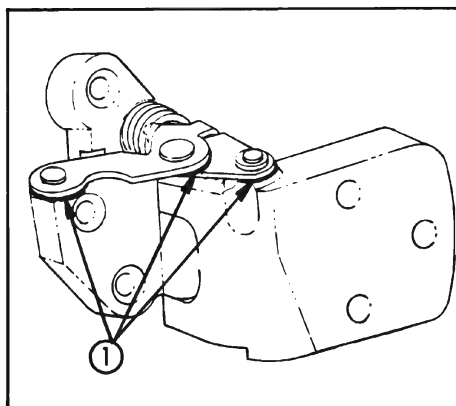

Figure 1-19—Rear Door Hinge and Hold-Open Assembly
4. Rear Door Hinge and Hold-Open Assembly. Wipe off dirt and apply a light coat of Lubriplate or equivalent, to frictional points (Figure 1-19). Wipe off excess lubricant.